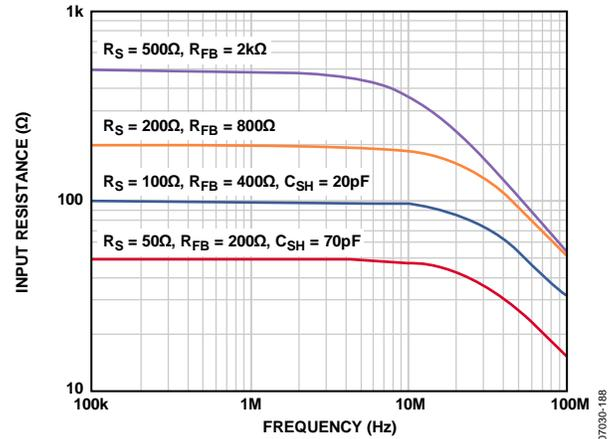

Figure 40.  $R_{IN}$  vs. Frequency for Various Values of  $R_{FB}$  (Effects of  $R_S$  and  $C_{SH}$  Are Also Shown)
The bandwidth (BW) of the LNA is greater than 100 MHz. Ultimately, the BW of the LNA limits the accuracy of the synthesized  $R_{IN}$ . For  $R_{IN} = R_S$  up to about 200  $\Omega$ , the best match is between 100 kHz and 10 MHz, where the lower frequency limit is determined by the size of the ac-coupling capacitors, and the upper limit is determined by the LNA BW. Furthermore, the input capacitance and  $R_S$  limit the BW at higher frequencies. Figure 40 shows  $R_{IN}$  vs. frequency for various values of  $R_{FB}$ .